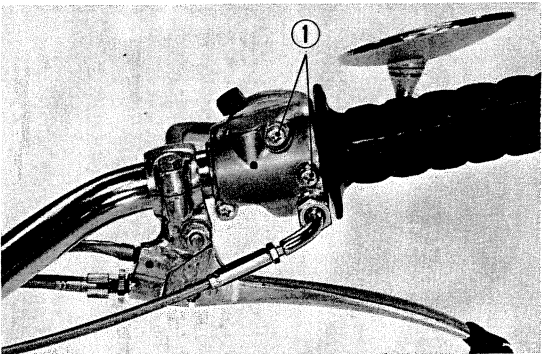

Fig. 172 Emergency switch removal
- ① Loosen two switch mounting screws and separate the upper and lower halves. (Fig. 172)
- ② Disconnect the throttle cable from the throttle cable connector on the bottom of the switch housing.
- ③ Disconnect the wirings within the headlight case and remove the switch assembly.